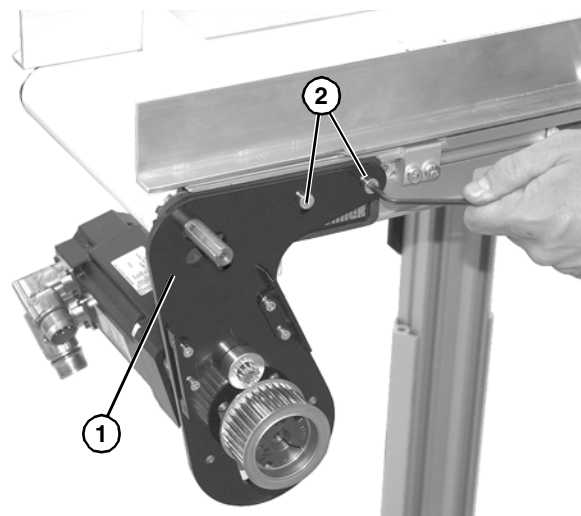

Figure 7
3. Secure servo and mount assembly (**Figure 7, item 1**) onto conveyor with two M6 screws (**Figure 7, item 2**). Tighten M6 screws to 60 in-lb (7 Nm).